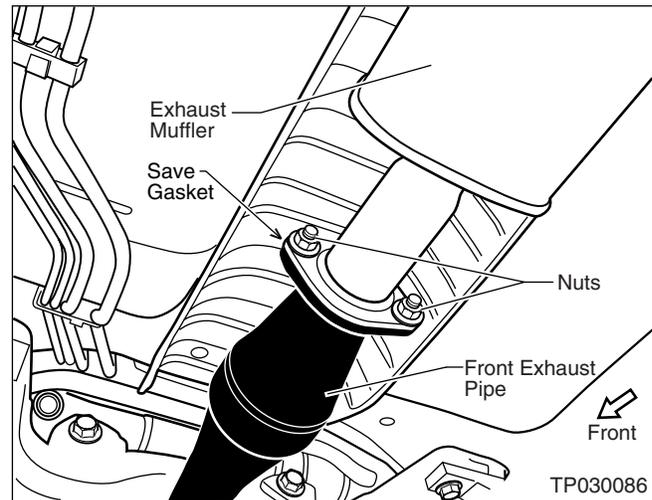

Figure E11
15. **This Step For Altima ONLY:** Remove the two nuts that secure the Front Exhaust Pipe to the Muffler (see Figure E11). Then, separate the Front Exhaust Pipe from the Muffler. Save the gasket as you'll need to re-use it later.